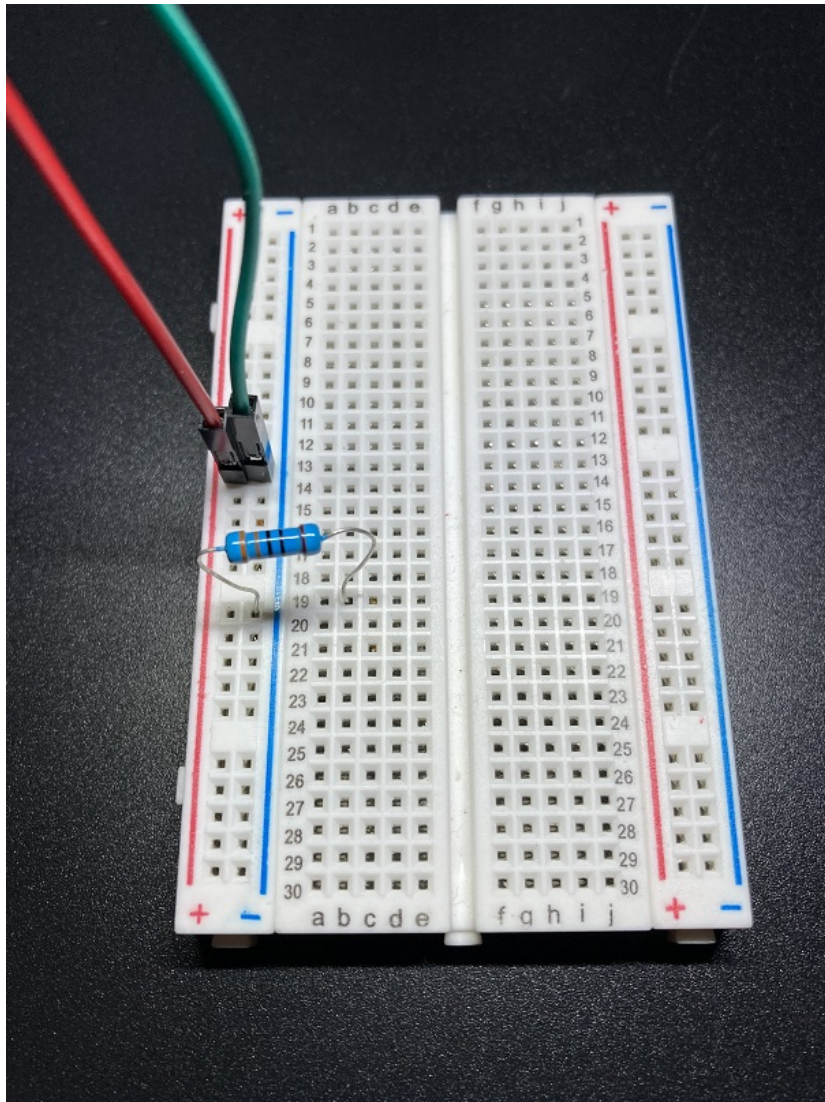

Figure 2: Resistor attached to breadboard. The colors on the resistor are used to identify the amount of resistance measured in ohms.
2. Next setup the resistor on the breadboard. The resistor should be setup connecting the ground bus on the breadboard to an inside row. Keep in consideration you'll need at least one hole for the LED leg to connect in the same row (Figure 2). Resistors are not directionally dependant, so it doesn't matter which end of it is connected to the ground bus and which end is connected to the inside row.